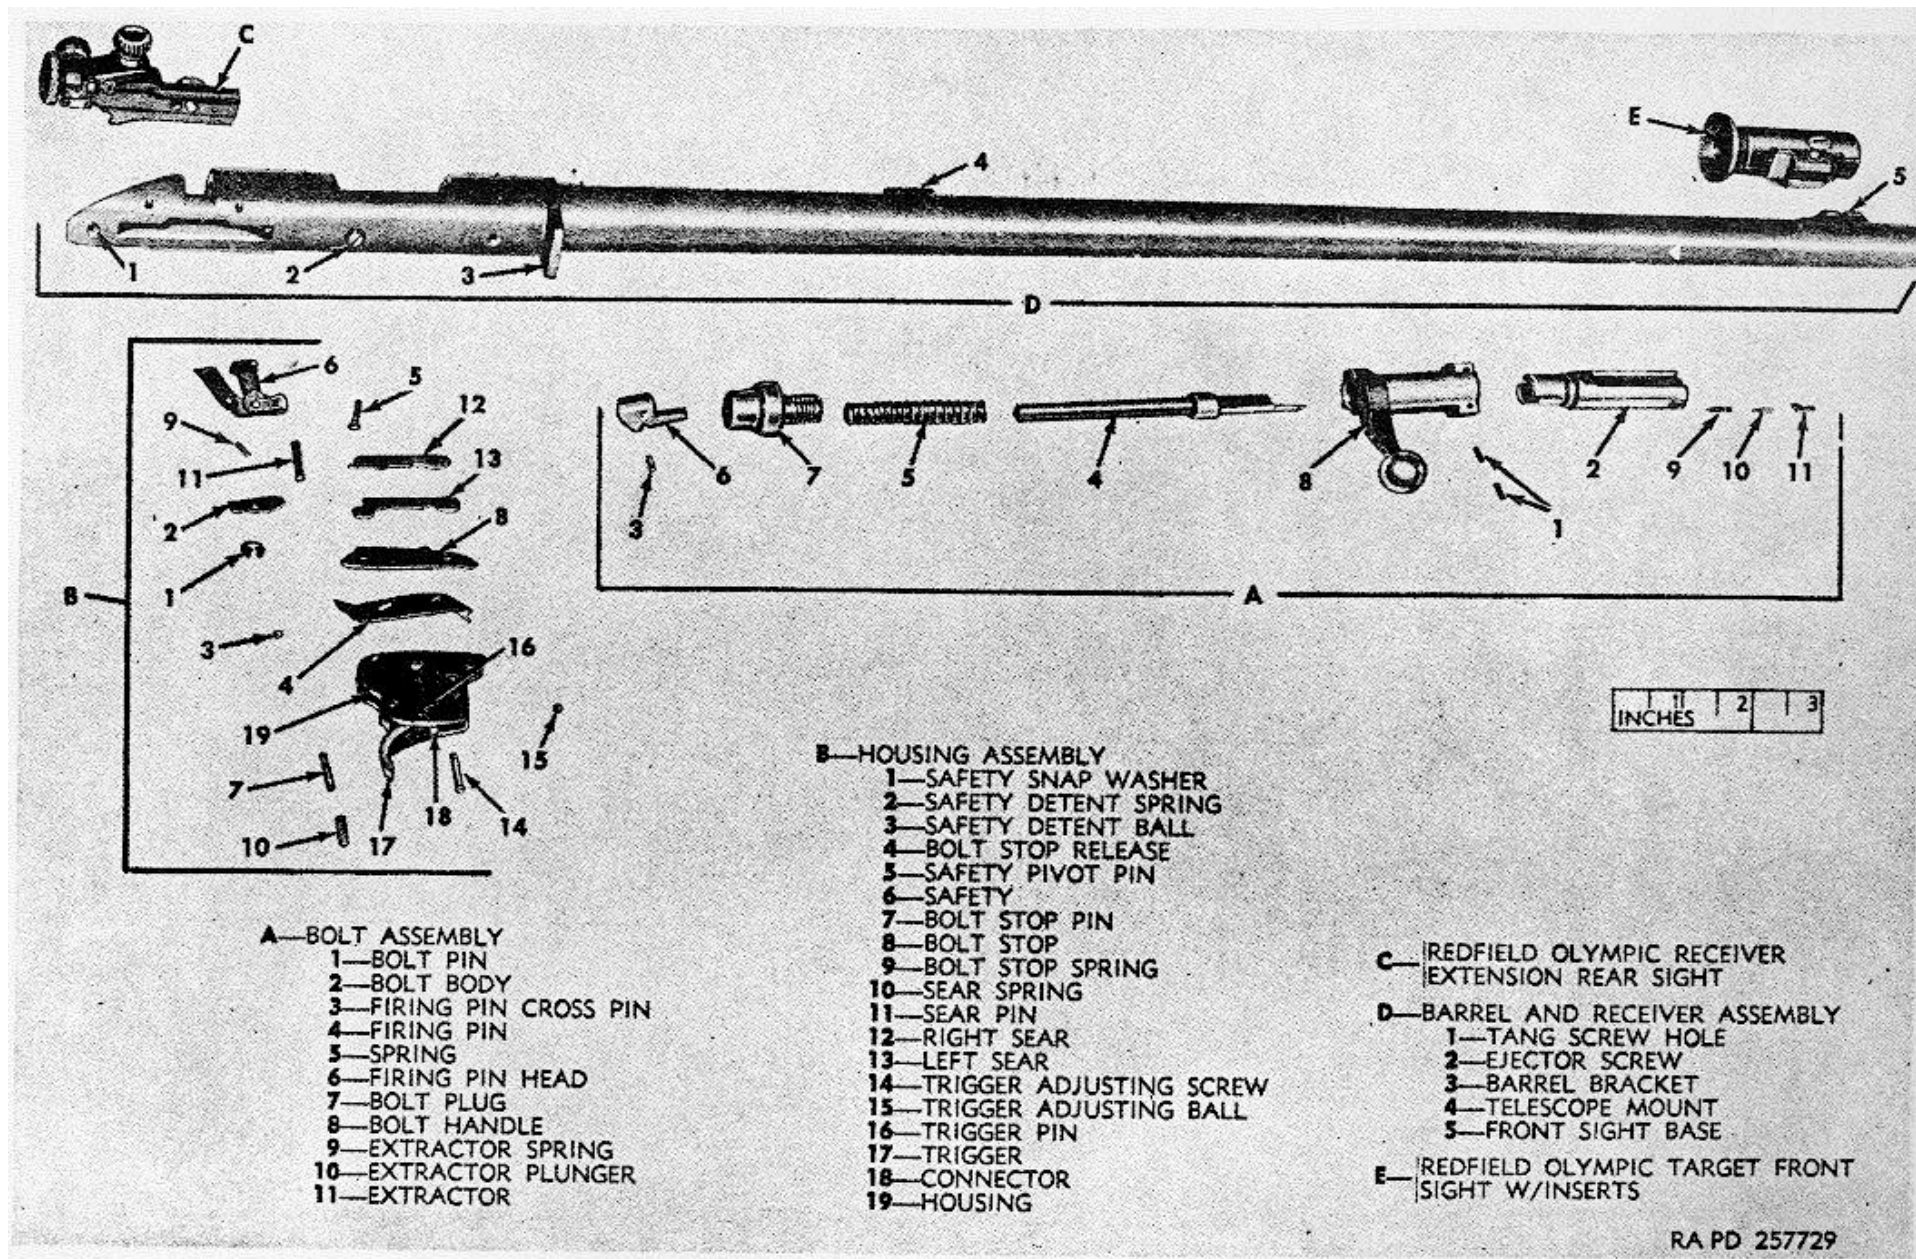

Figure 62. Barrel, receiver, and bolt group-exploded view (Remington rifle M40X-S1).
**Note.** The key letters shown below in parentheses refer to figure 62.
- (1) Rotate the safety forward to the FIRE position. Push up on bolt and release in trigger guard, forward of the trigger, and remove bolt assembly (A) from rear of receiver.
- (2) Remove two pins from bolt handle body assembly and separate bolt body (A2) from bolt handle body assembly.
- (3) Remove firing pin cross pin (A3).
- (4) Remove firing spring (A5).
- (5) Remove firing pin (A4).
- (6) Remove firing pin head (A6).
- (7) Unscrew bolt plug (A7).
- (8) Remove extractor plunger (A10) and spring (A9) from each side of bolt body and remove extractors (A11).
a. *Removal.* Remove two pins securing trigger housing assembly to receiver and remove housing assembly (B).
- (1) Remove safety snap washer (B1).
- (2) Remove safety detent spring (B2).
- (3) Remove safety detent ball (B3).
- (4) Remove bolt stop release (B4).
- (5) Remove safety pivot pin (B5).
- (6) Remove safety (B6).
- (7) Remove bolt stop pin (B7).
- (8) Remove bolt stop (B8).